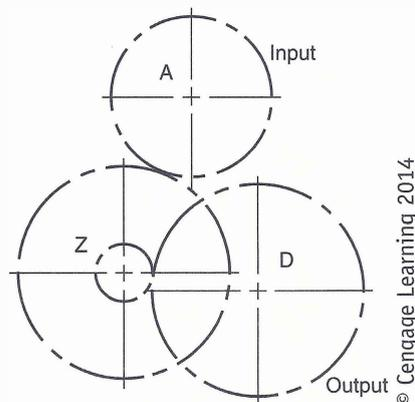

FIGURE 4-6 A gear train schematic.
1. Does the schematic drawing in Figure 4-6 represent a simple or compound gear train? How can you tell?